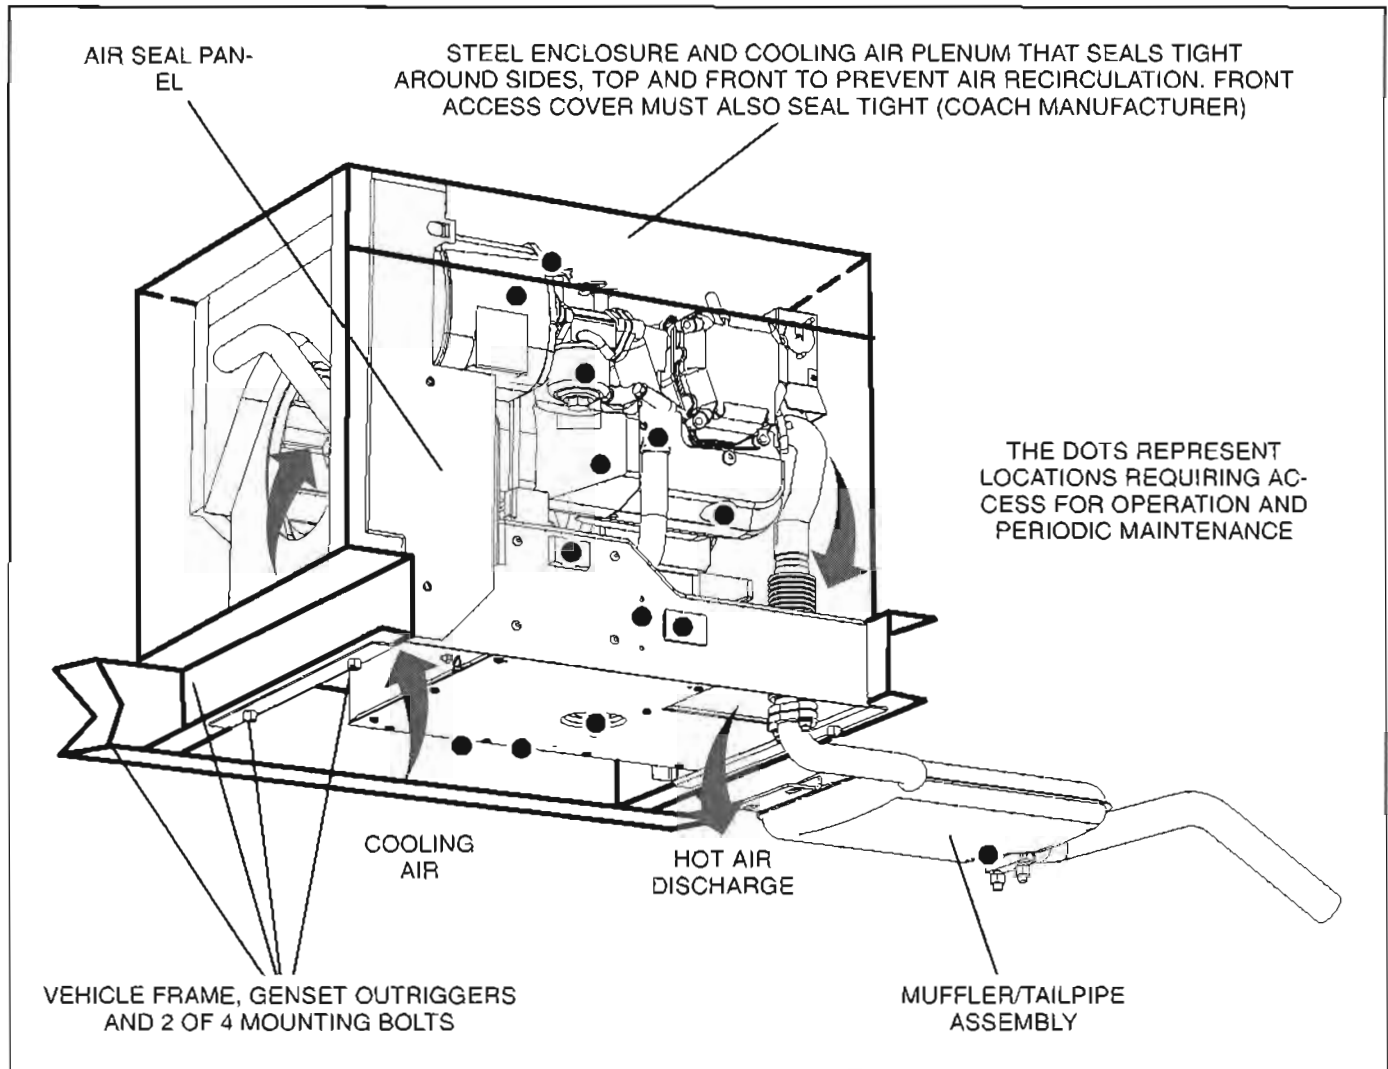
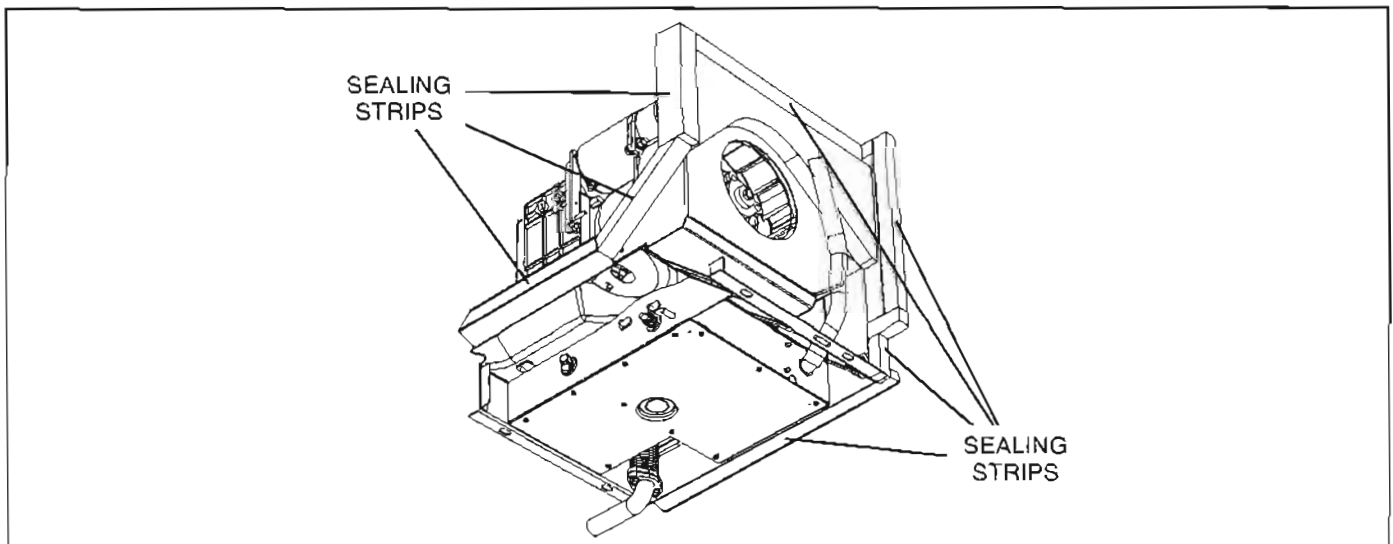

FIGURE 1. TYPICAL GENSET INSTALLATION
FIGURE 2. AIR SEALING STRIPS
Figure 1 illustrates a typical genset installation. For clarity, the genset compartment door and front panels (provided by the vehicle manufacturer) are not shown. See OUTLINE DRAWING (Page NO TAG) for installation details: mounting bolt hole locations,
These gensets are designed for installation inside a steel compartment that forms the cooling air plenum of the genset (Figure 1). The cooling air inlet and hot air discharge openings are both in the bottom of the genset. The genset has mounting flanges and is meant to be lifted up to the bottom of the vehicle frame outriggers and bolted.
3. The genset compartment must be sized according to the outline drawing (Page NO TAG). Construction must be such that the compartment forms a good seal against the foam seal strips shown in Figure 2, to prevent warm air off the engine from recirculating back into the blower inlet. The air seal panel (Figure 1) pre-